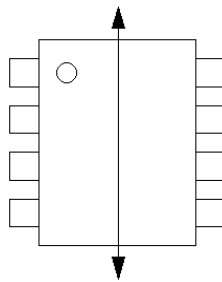

Figure 20 Cross-Axis Field Direction
- 11/ External magnetic field immunity is improved by this factor if the field direction is end-to-end rather than pin-to-pin (See Figure 20).